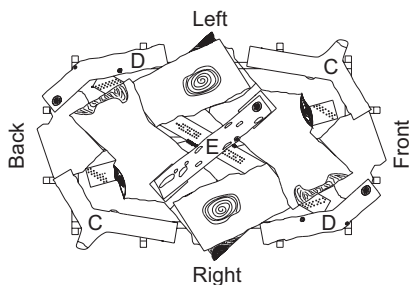

Figure 47 - Installing Twigs "C, D, E" (Top View)
8. Take twigs "C" (shaped like a "Y") and place them as shown in Figure 47.
9. Take twigs "D" (bent twig) and place them as shown in Figure 47.
10. Place twig "E" across the top of logs "B" as shown in Figure 47.
11. When finished installing logs, close glass door. Make certain safety door switch is fully depressed by door frame before securing four (4) spring loaded latches.